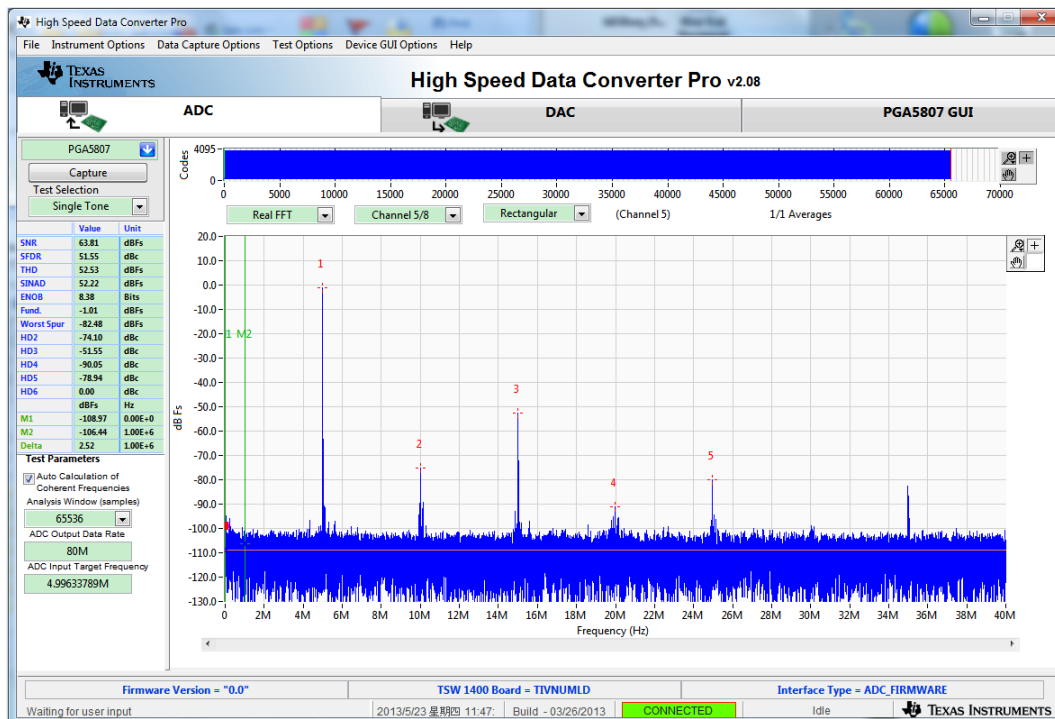

Figure 45. PGA5807A + ADS5296A SNR, THD, Gain Test Capture 1
- Click on the ADC tab and press *Capture* to see result similar to Figure 45. Take note of the *Fund.* value in the table to the left. In a similar manner to that described in Section 4.3, the input signal amplitude to the PGA5807A should be adjusted and a re-capture done iteratively until the *Fund.* value is approximately -1.0 dBFs. As -1.0 dBFs is the ADC level at which datasheet specifications are set, the SNR and THD of the signal chain can be taken from the table to left at this value of *Fund.*